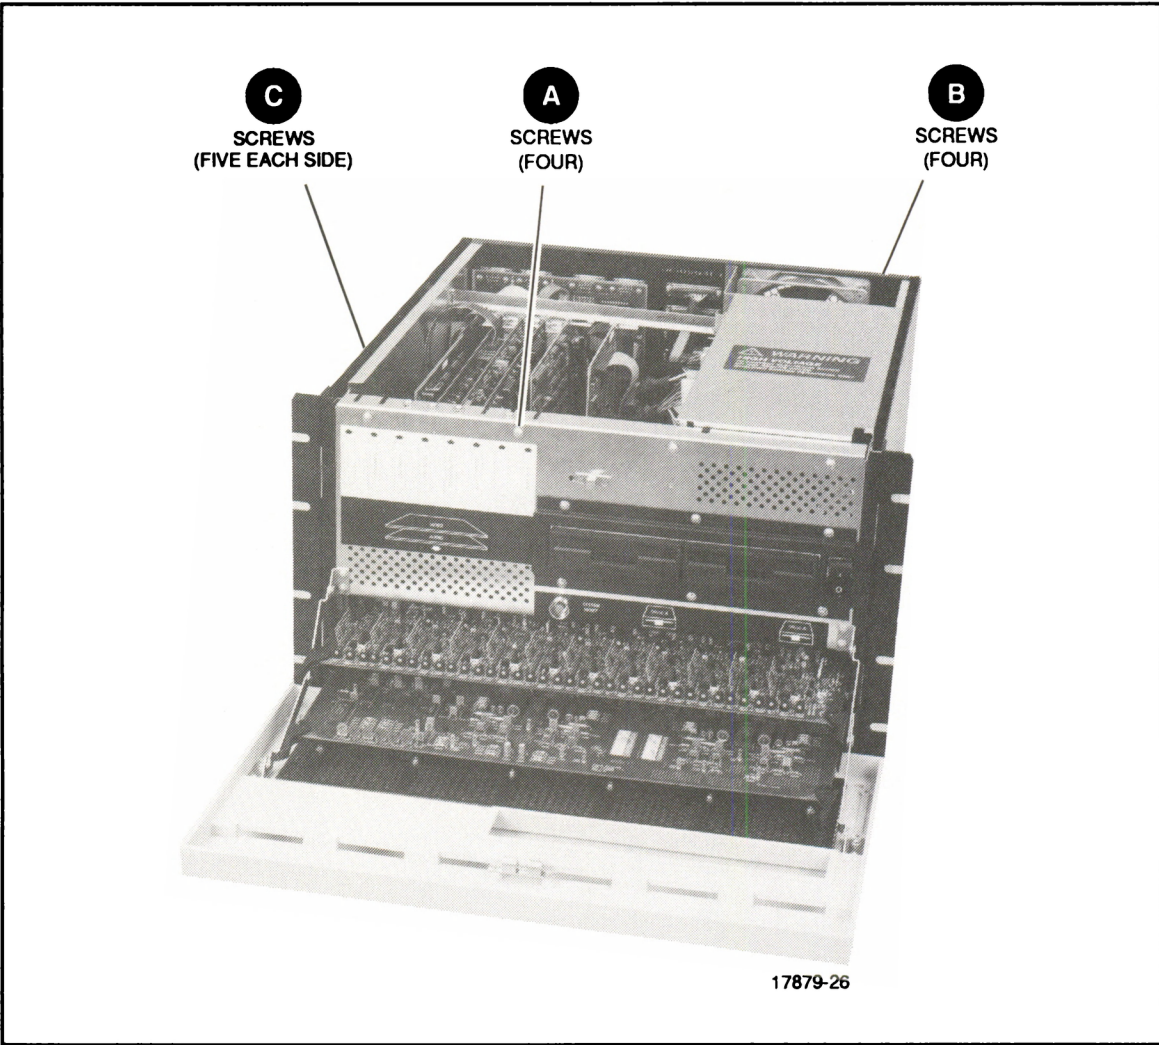

Figure 4-1. Edit Controller - Top Cover Removal
The top cover is secured by 18 cross-recessed screws, shown in Figure 4-1. The following procedure is used to remove the top cover:
1. Lower front cover and loosen 4 cross-recessed screws in front (see Figure 4-1 [A]).
2. Remove 4 cross-recessed screws on rear lip of top cover (see Figure 4-1 [B]).
3. Loosen 10 cross-recessed screws (5 on each side of cover). (See Figure 4-1 [C].)